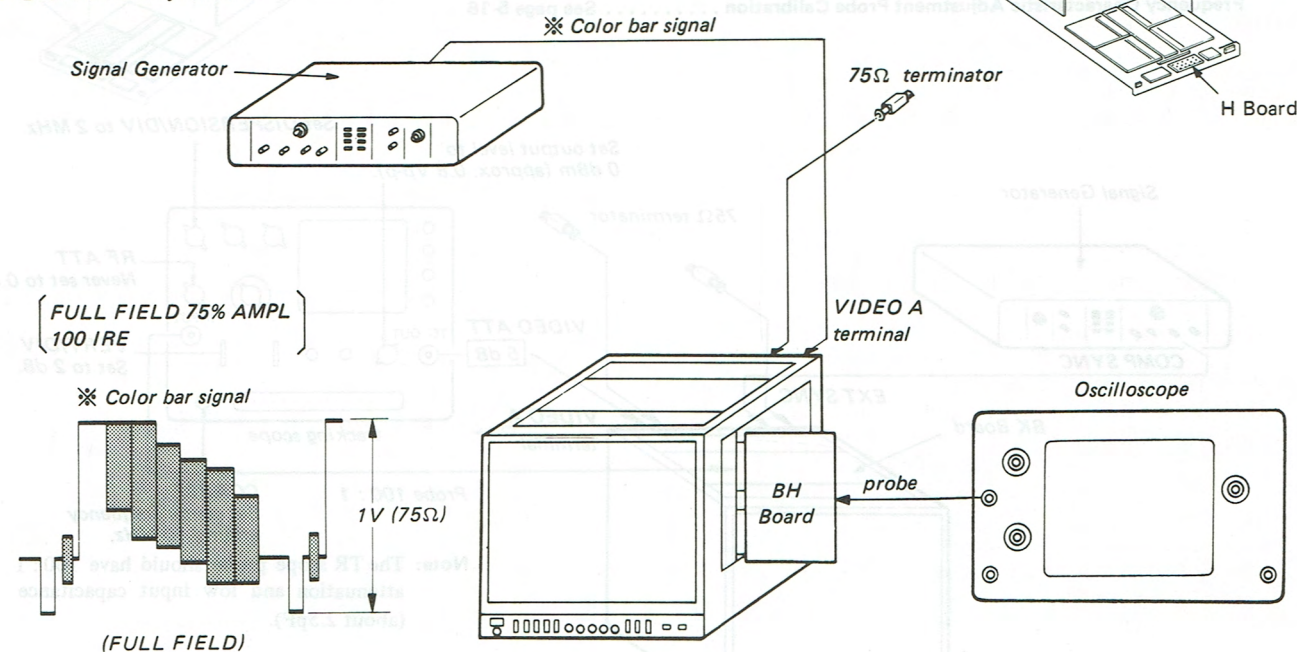

Fig. 36-1.
1. Connect as shown in Fig. 36-1.